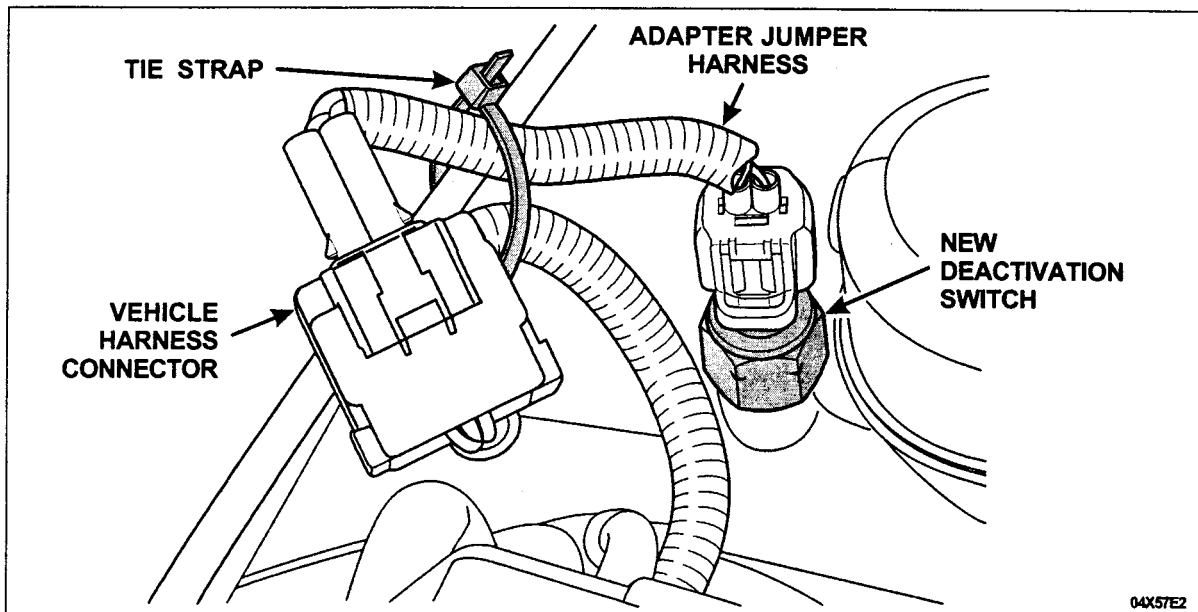

FIGURE 5
5. Using the supplied tie strap, secure the adapter jumper harness to the speed control cable or some other stationary object. Keep the harness away from the power distribution box to avoid chafing the harness. See Figure 5.